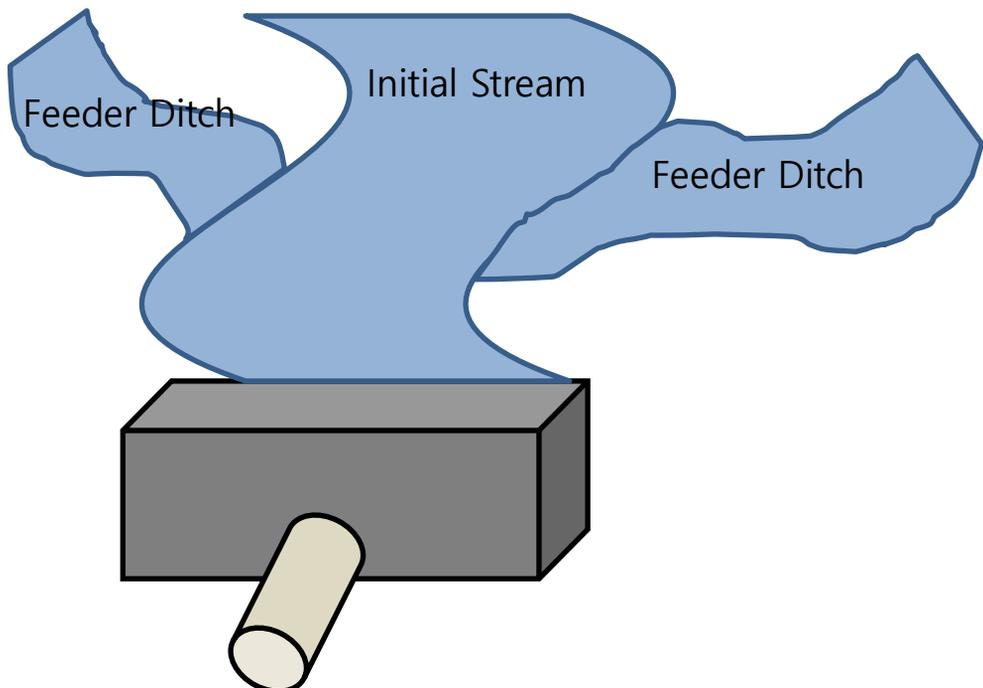

Figure 5. Dig and connect feeder ditches using nearby water sources
- b) Dig Feeder ditches that can bring more water flow to the dam behind the weir (Fig. 5).